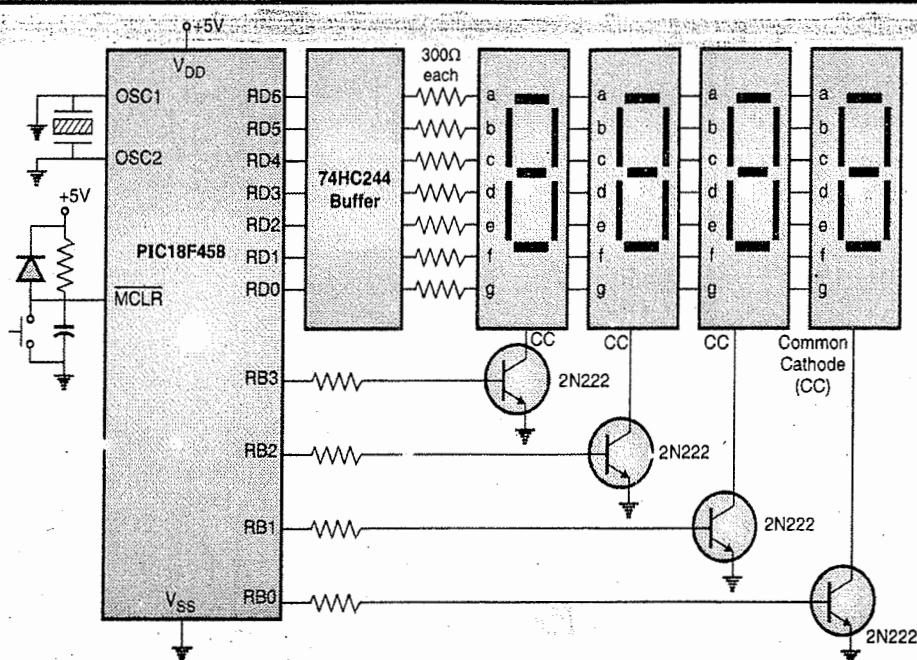

Fig. 10.5.4 : Interfacing multiple seven segment displays to PIC18F458 through Port B and Port D
- Fig. 10.5.4 shows the interfacing of 4 seven segment display. The 4 digits are connected using the time multiplexing method.
- As shown in Fig. 10.5.4 the common cathode of a seven segment display is connected to the collector of an NPN transistor.
- Looking at the Fig. 10.5.4 one question may arise in your mind that will all the 4 digits display the same number. The answer is that if all the digits are turned on at the same time then they will show the same number. But, in case of multiplexed display the segment information is sent for all digits on common lines, but only one display digit is turned on at a time.